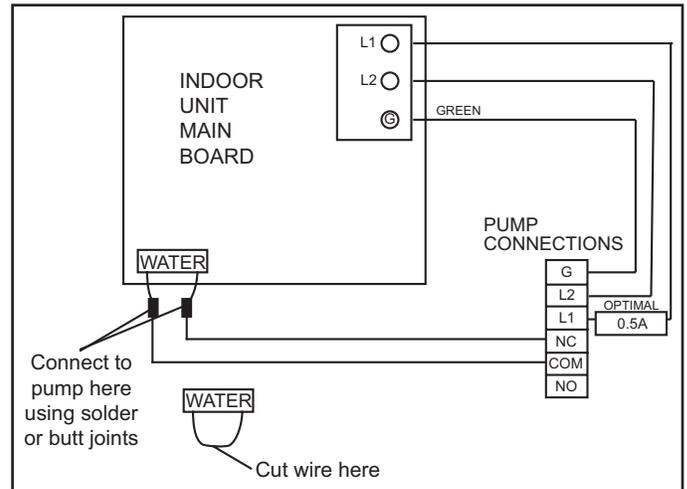

Figure 14. External Water Level Switch Connection
2. Connect the provided overflow harness accessory to the WATER connection. See Figure 14.